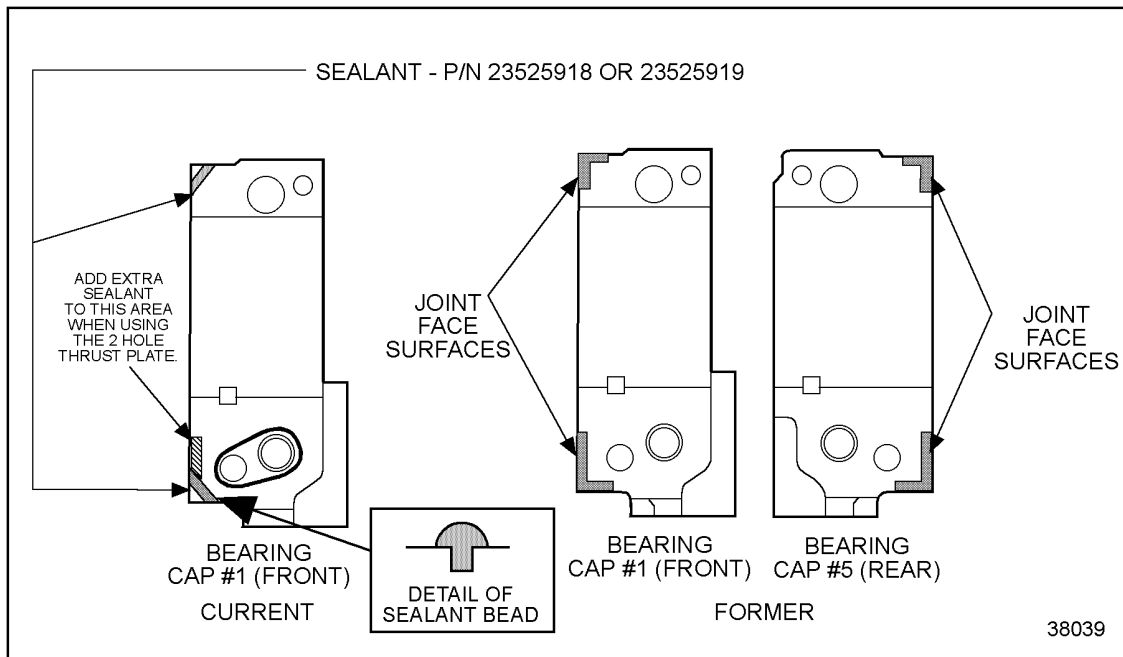

Figure 1-309 Gasket Eliminator Application (Camshaft Bearing Cap)
12. For engines built prior to unit number 4R0028789 apply gasket eliminator P/N 23523064, or equivalent to the joint face surfaces of the No. 1 and 5 camshaft caps. See Figure 1-309.